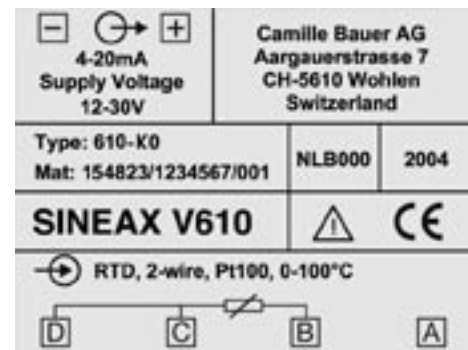

Fig. 7. Example of a nameplate.
- ... the data required to carry out the prescribed measurement must correspond to those marked on the nameplate (Fig. 7) of SINEAX V 610.